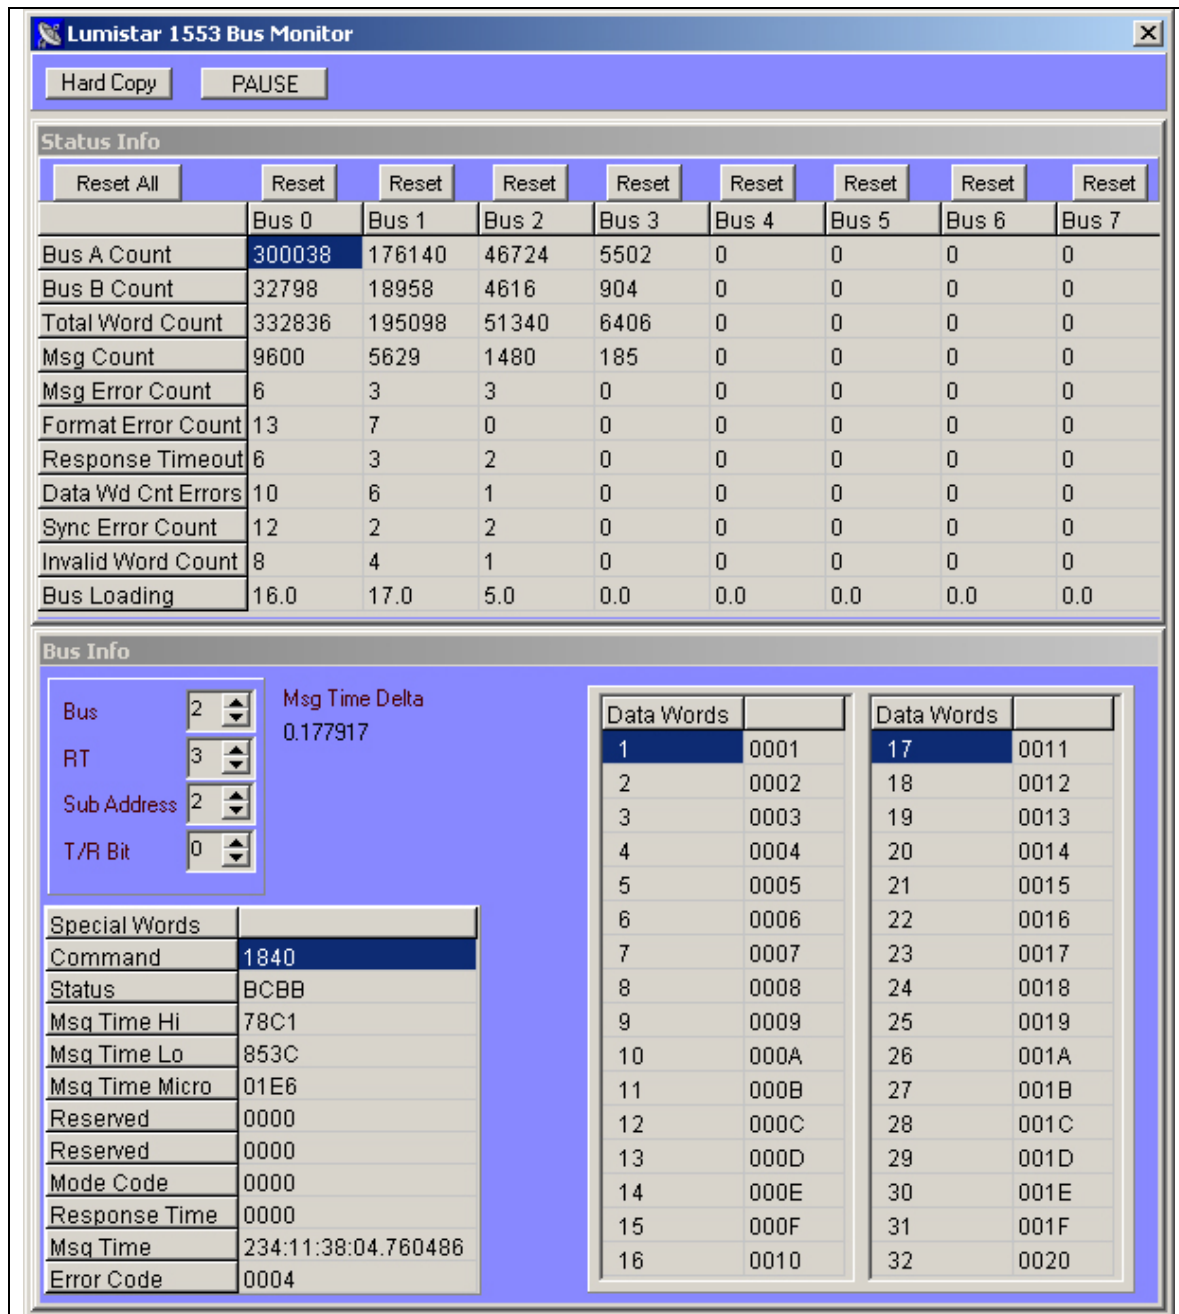

Figure 3-20 MIL-STD-1553 Bus Monitor Window
The view menu allows the user to display data and status for up to eight (8) MIL-STD-1553 bus supported by the hardware in the system. The **Bus Data** command, invokes the 1553 Bus Monitor display shown in Figure 3-20 on page 124. The **Status Data** command invokes the 1553 Bus Monitor Status display shown in Figure 3-21 on page 125. This display shows the updating values for all 1553 parameters defined in the database.
The 1553 Bus Monitor display window is shown in Figure 3-20 on page 124. To invoke this display, select the View Bus Data command (View → *Bus Data*) from the 1553 bus monitor setup GUI. There are three main sections of the GUI. At the top left are two controls: Pause, and Hard Copy. Clicking the **Pause** button halts the updating (at a 10 Hertz rate) of numerical data on the display. Clicking the **Hard Copy** button takes a snapshot of the application window and saves the image (Windows BMP format) in the root directory where the bus monitor application is located.
The serial data display window shown in Figure 2-2 on page 46, was intended more for a PCM frame format rather than a 1553 structure. Thus the 1553 bus monitor seen in Figure 3-20 on page 124 is a more appropriate tool for viewing 1553 data. In LDPS, MIL-STD-1553 data is input from the interface card as a major PCM frame containing 128 minor frames, with each minor frame of data containing a 1553 message structure of 47 words. The meanings of the minor frame words are as follows: